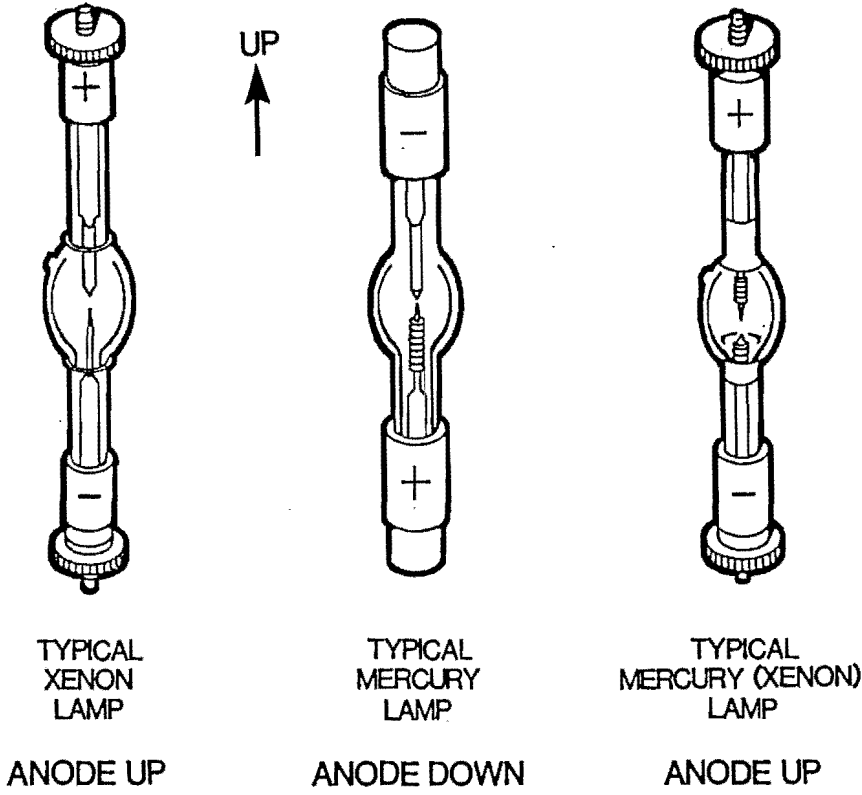

Fig. 4 Correct operating position of arc lamps.
- 4 Determine which orientation is correct for the lamp. For xenon and mercury (xenon) lamps, the anode (+ ve) is at the top. For mercury lamps the anode (+ ve) must be at the bottom. You can identify the anode by a + stamped on the lamp base. Any lamp identification writing or numbers will be the correct way up when the lamp is held in the correct operating orientation. See Fig. 4 on page 15 for a diagram.